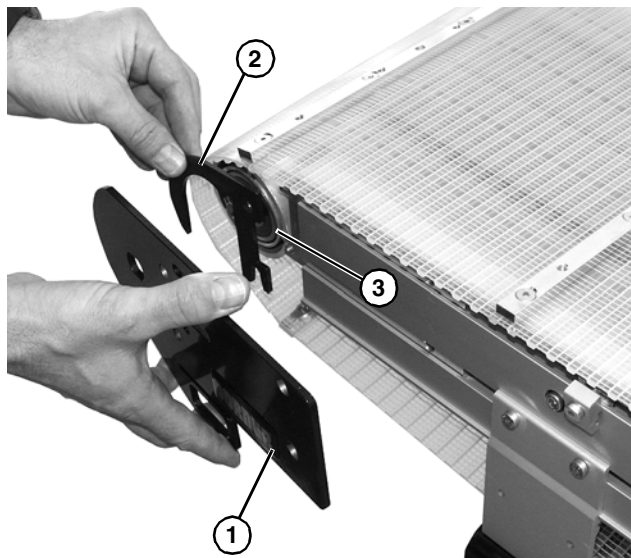

Figure 33
4. Pull back the outer headplate (Figure 33, item 1) and remove the inner spacer (Figure 33, item 2).
5. Slide the idler pulley assembly (Figure 33, item 3) out of the headplate on the opposite side.